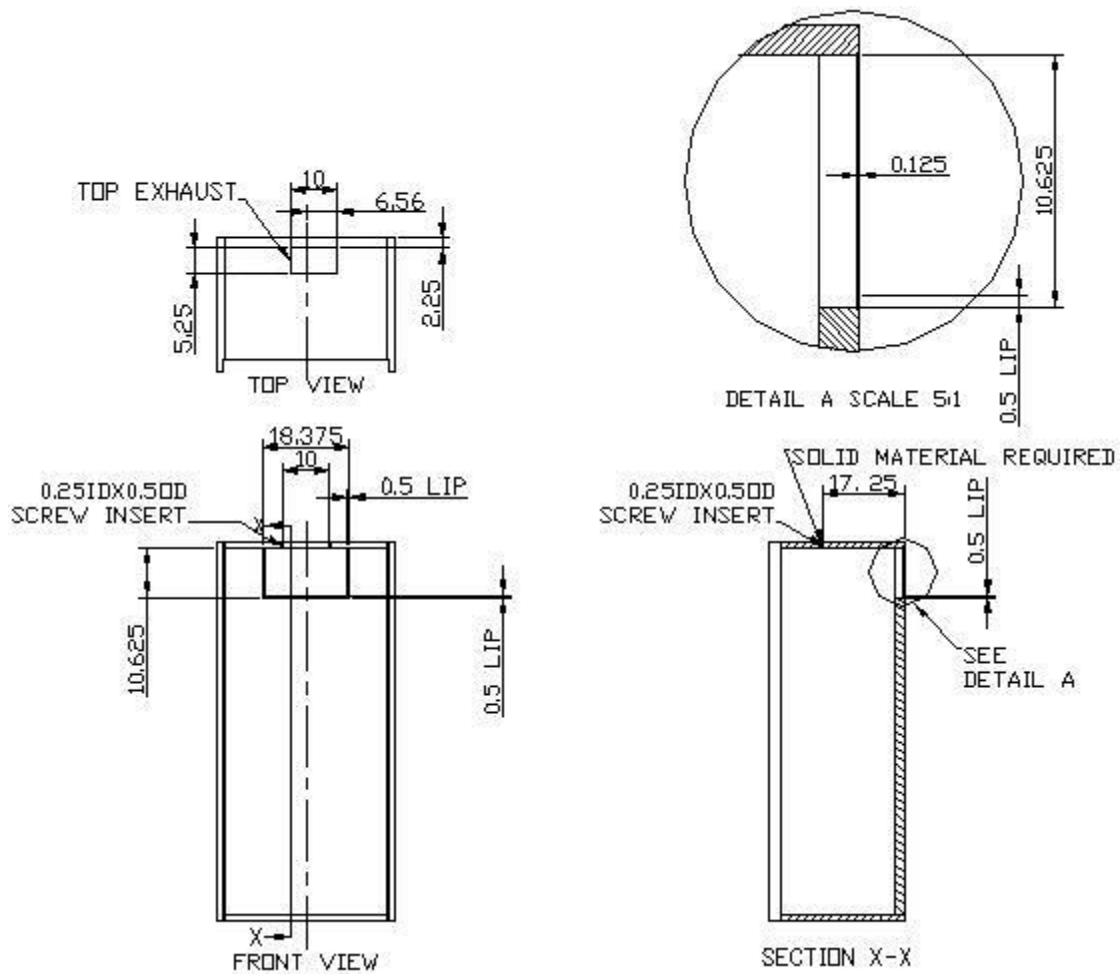

Fig. 2.1 CUTOUT AND HOLE DIMENSIONS
- Cut a rectangular inside opening at the rear of the cabinet with the 1/4" clearance inwards to the width and height of the cooling unit. By not going through, leave 1/2" lip inside at the wall to place the gaskets (see Fig. 2.1 & 2.2).
- If top exhaust installation, cut another rectangular opening at the top of the cabinet to the length and width of the top exhaust (see Fig. 2.1 & 2.3).
- Install 2 pieces of 1/4" ID wood thread inserts at the ceiling (see Fig. 2.1 & 2.4).
- Place the gaskets (1/2" foam tape) on the gasket lips (see Fig. 2.1 & 2.5).
- If top exhaust installation, place another gaskets along the top exhaust at the top of the cooling unit (see Fig. 2.1 & 2.6).